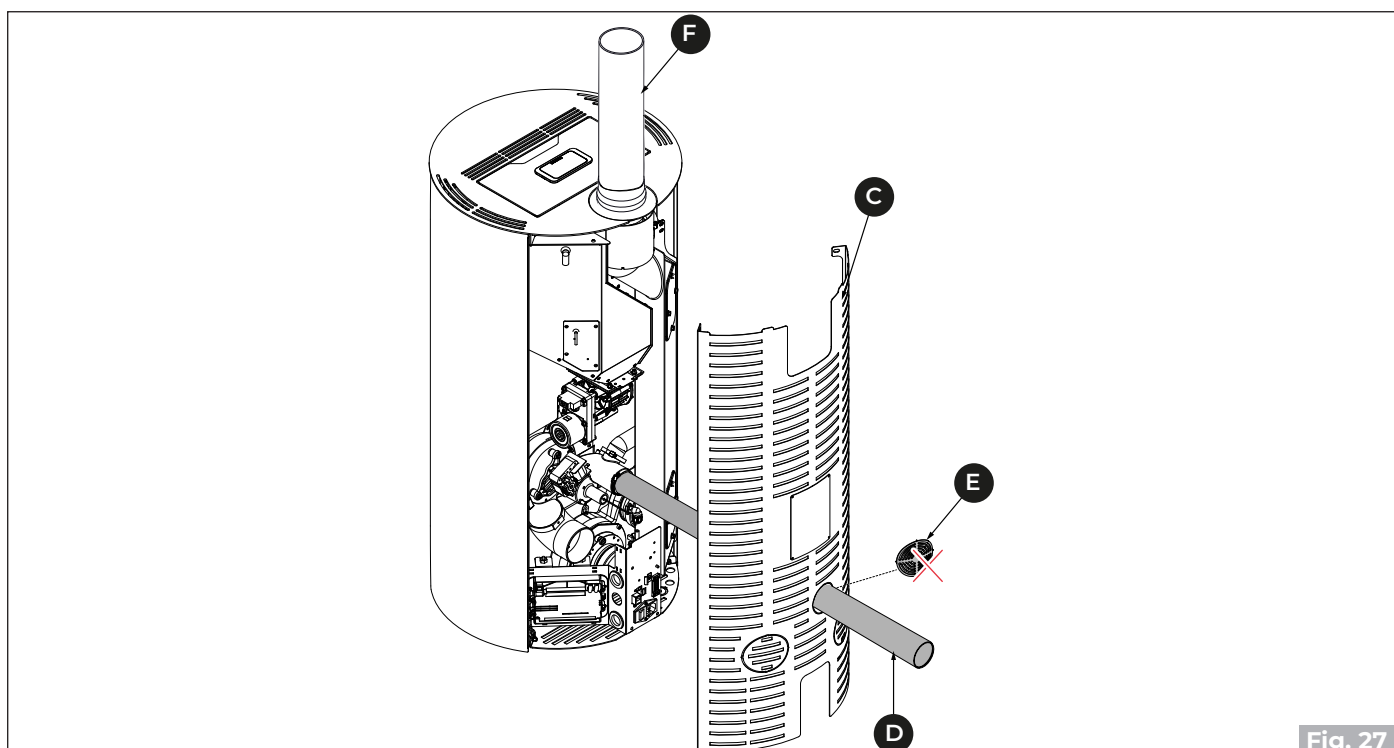

Fig. 27
- Connect the flue gas outlet pipe **(F)** **"Fig. 27"**